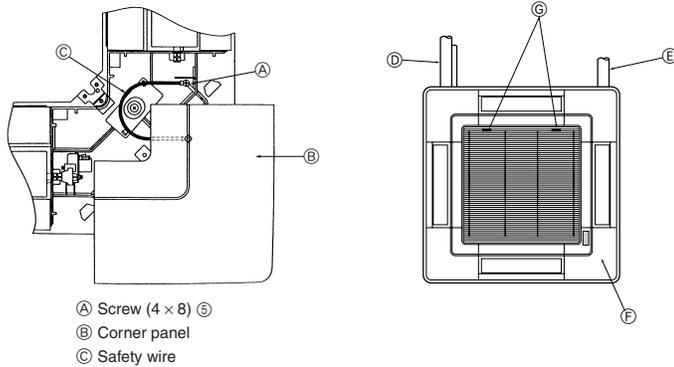

Fig. 8-10
8.7. Installing the intake grille (Fig. 8-10)